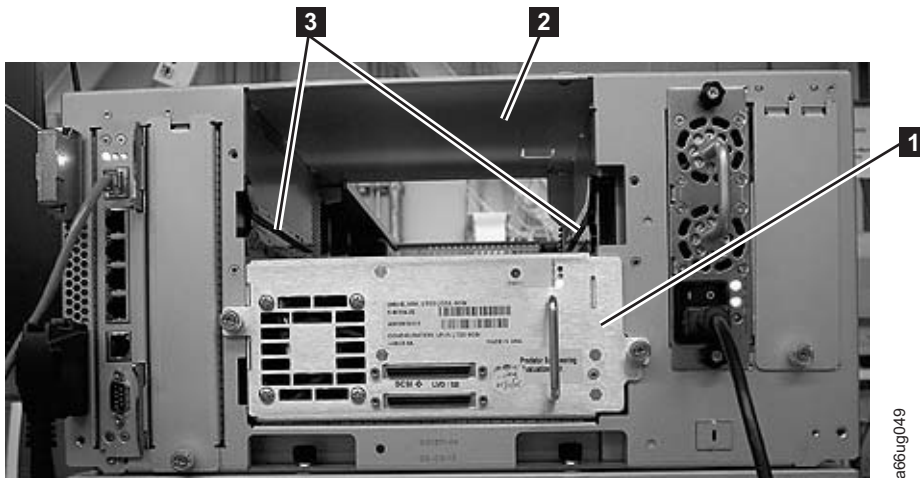

Figure 11-4. Control module with one SCSI drive installed and one open drive slot with cover plate removed
Figure 11-4 shows a control module with one SCSI drive sled installed (**1**) and the empty drive slot exposed (**2**), after the cover plate has been removed.
- a. Insert the new drive sled into the empty drive slot. Use the guide rails on both the drive sled and in the drive slot (**3** in Figure 11-4), slowly slide the drive sled into the slot. The drive sled must be level to slide in smoothly.